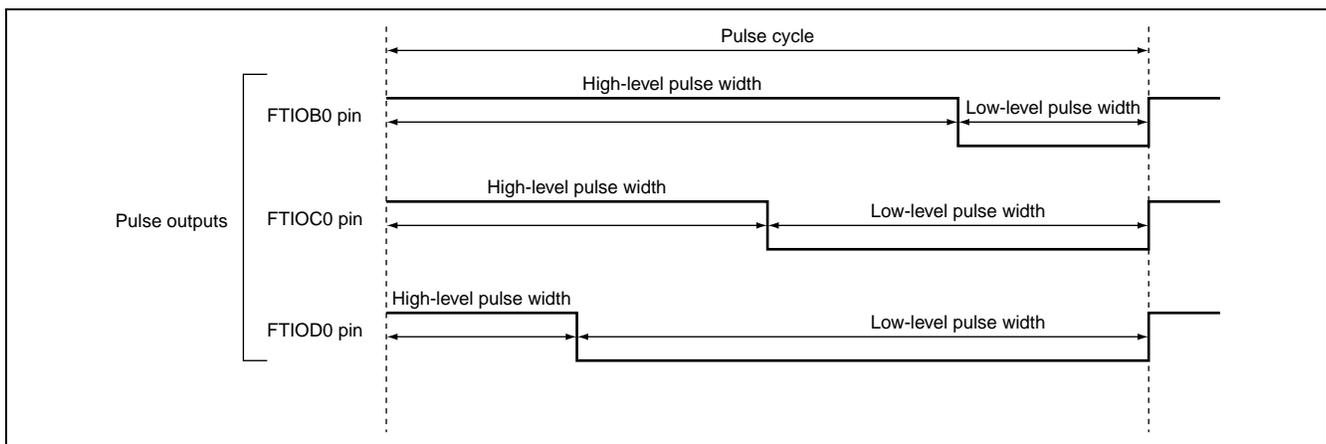

Figure 1.1 Output of Three PWM Signals
2. This sample task involves controlling the H8/3687 to produce outputs of the form shown in figure 1.1, that is, three PWM waveforms, each of which has a controllable duty cycle but the same period. This is achieved through control of the high-level pulse width.